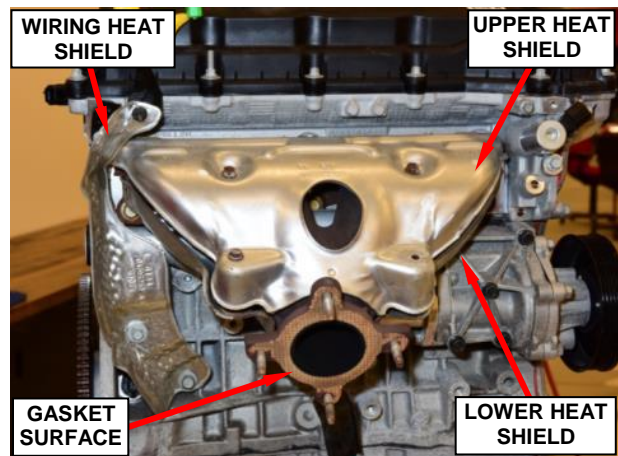

Figure 54 – Heat Shields
137. Remove and save the one nut and two bolts and the engine wiring heat shield (Figure 54).
- a. Remove and save the remaining three exhaust manifold heat shield bolts (Figure 54).
- b. Remove and save the upper and lower exhaust manifold heat shields (Figure 54).
- c. Clean the catalytic converter gasket sealing surface (Figure 54).
- e. Position the upper and lower exhaust manifold heat shields (Figure 54).
- f. Install three exhaust manifold heat shield bolts leaving the power steering hose bracket bolt hole empty for later installation (Figure 54). Tighten the bolts to 80 in. lbs. (9 N·m).
166. Position the engine wiring heat shield then install the fasteners; one nut and two bolts (Figure 54). Tighten the bolts and nut to 80 in. lbs. (9 N·m).